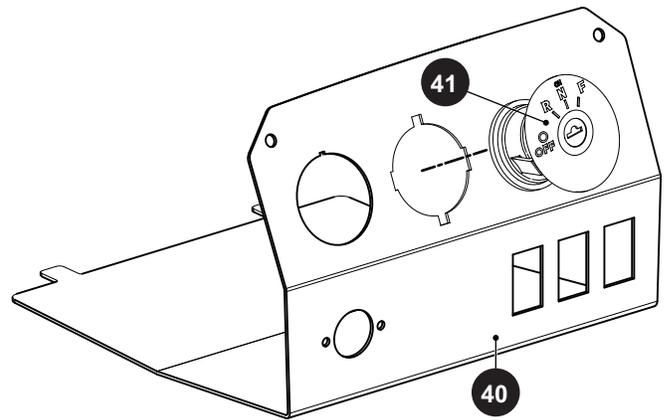

Fig. 16 Key Switch
5. Squeeze the tabs on the back side of the key switch (41) and push it through the front of the gauge panel (40) (Ref. Fig. 16).